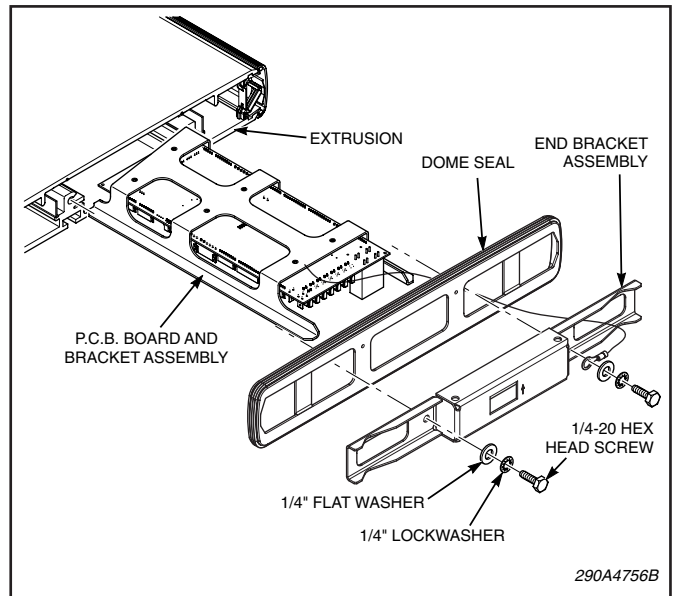

Figure 13.
L. *PCB Motherboard Replacement (see figure 13).*